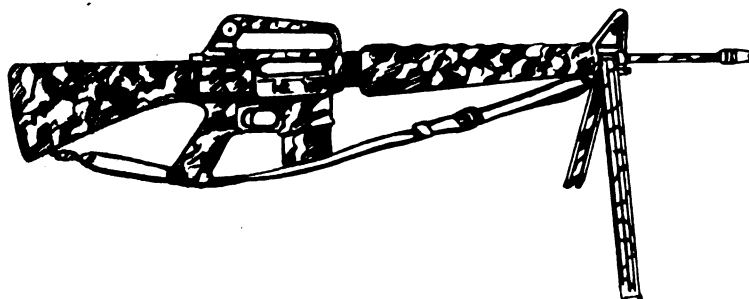

Figure 4
4. To camouflage your weapon (fig. 4).